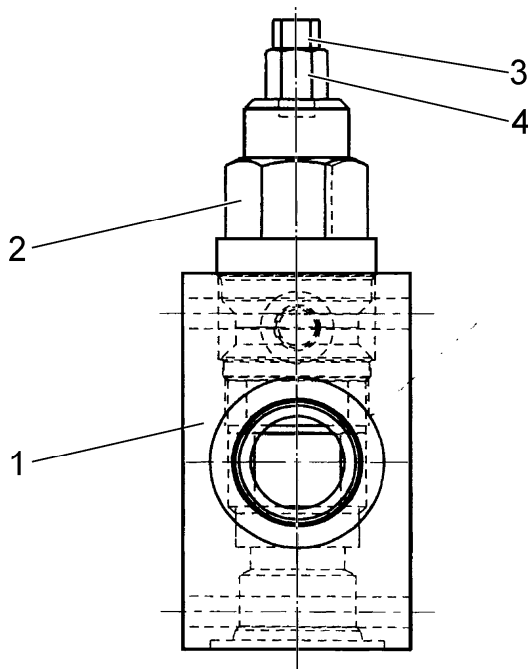

Fig. 7.12. Pressure Gauge Connect Point
2. To adjust priority valve pressure regulator (2, Fig.7.12), loosen the counter nut (4) and turn the adjusting screw (3) in to increase pressure or out to decrease pressure (refer to **Priority Valve Pressure Check** procedure above).
3. Tighten the counter nut (4) to the pressure regulator (2) after adjustment. Recheck the priority valve pressure and disconnect the pressure gauge.